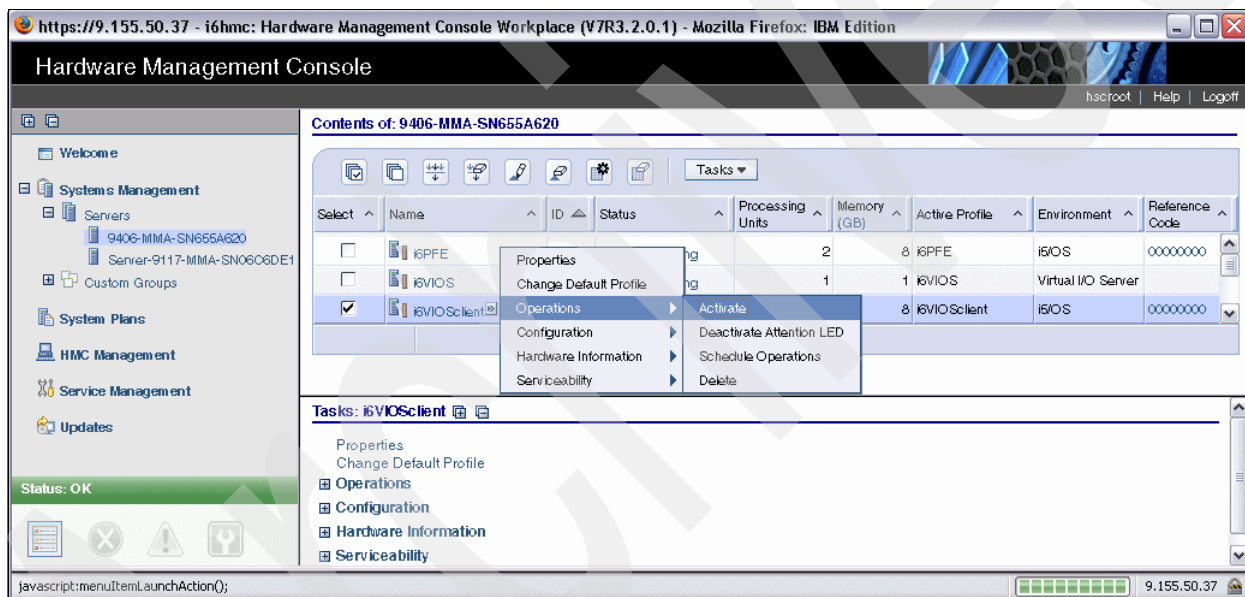

Figure 6-63 HMC IBM i client partition activation
2. We use the HMC to activate our newly created IBM i client partition i6VIOsclient by marking this partition from the Systems Management → Servers view and selecting **Operations** → **Activate** from the pop-up menu, as shown in Figure 6-63.